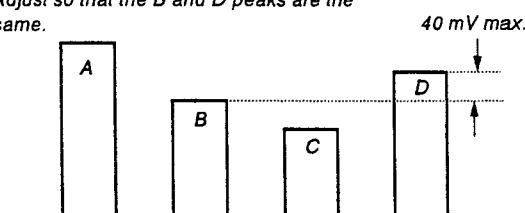

Fig. 23
- 4) Adjust [CHROMA PAL NOR] so that the tops of the waveform line up. (Fig. 23)
- 2) Adjust [CHROMA PAL ACC OFF] in the same manner as 15-4). (Fig. 23)